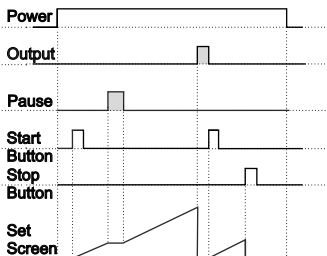

Figure 1.4
1.2.2 If Upcount \boxed{INC} = 0 and \boxed{OUT} is \boxed{OFF} the control diagram is shown in Figure 1.4